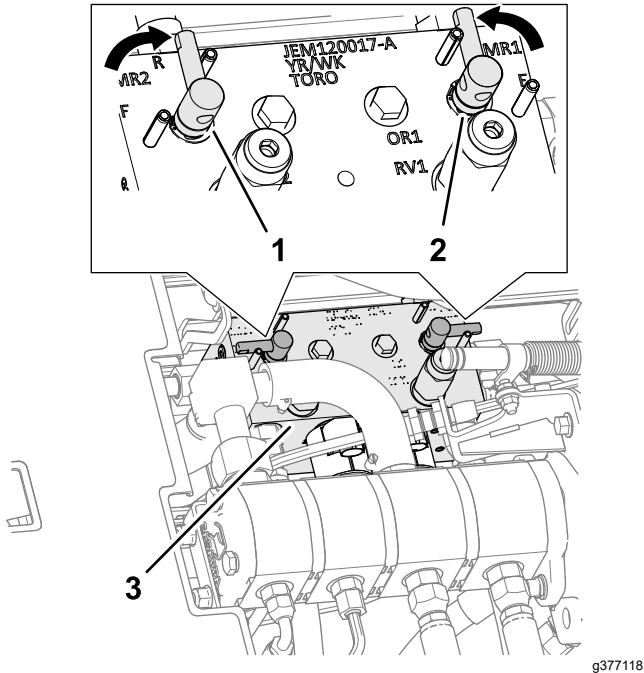

Figure 105
4. Unlock and raise the seat to expose the mower manifold (Figure 105).
5. Move the backlap levers to the R (backlap) position (Figure 105).